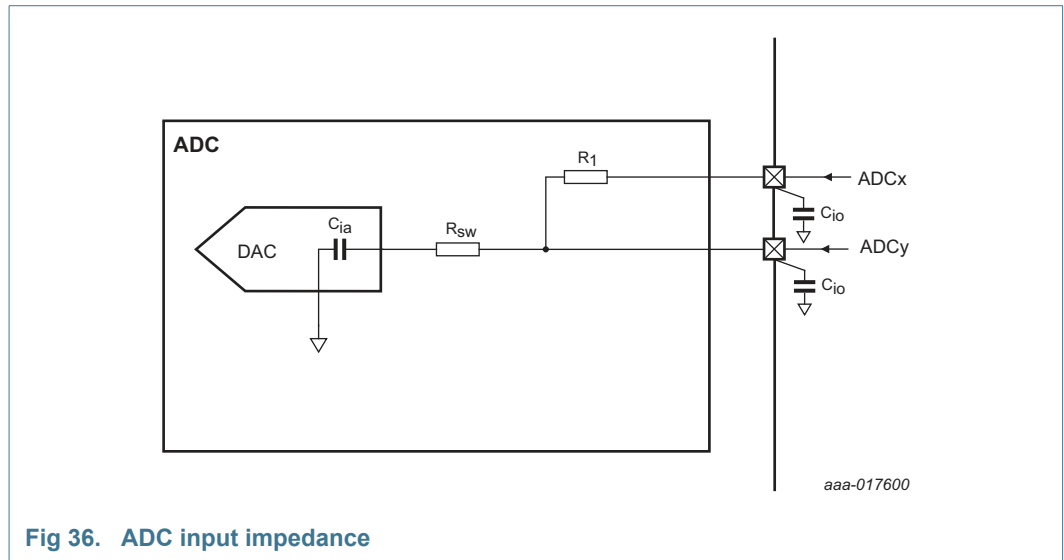

Fig 36. ADC input impedance
- [10] Input impedance  $Z_i$  is inversely proportional to the sampling frequency and the total input capacity including  $C_{ia}$  and  $C_{io}$ :  $Z_i \propto 1 / (f_s \times C_i)$ . See Table 19 for  $C_{io}$ . See Figure 36.
Figure 36 shows the ADC input impedance. In this figure: